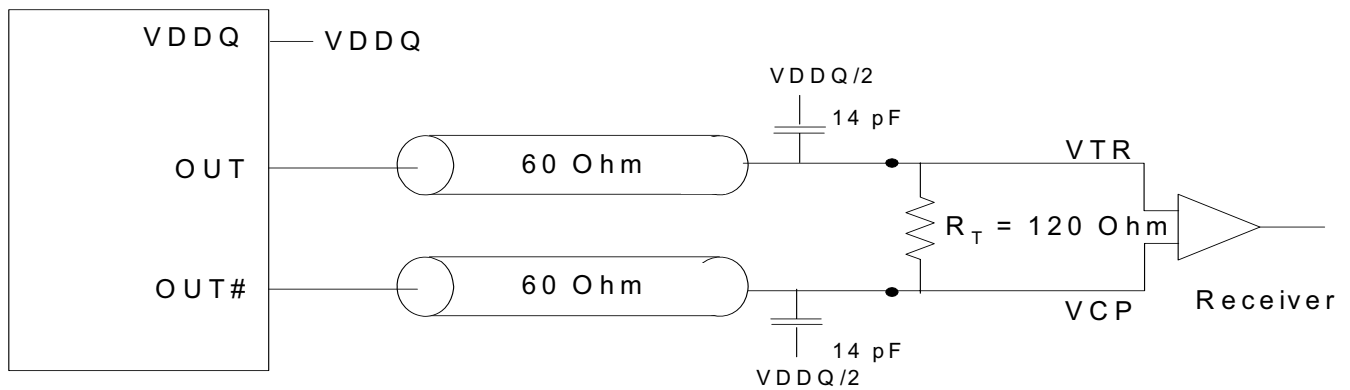

Figure 6. Differential Signal Using Direct Termination Resistor
- Differential input signal voltage specifies the differential voltage $V_{TR}-V_{CPI}$ required for switching, where V_{TR} is the true input level and V_{CPI} is the complementary input level. See Figure 6.
- For load conditions see Figure 6.
- The value of V_{OC} is expected to be $(V_{TR} + V_{CPI})/2$. In case of each clock directly terminated by a 120Ω resistor. See Figure 6.
- All outputs switching load with 14 pF in 60Ω environment. See Figure 6.